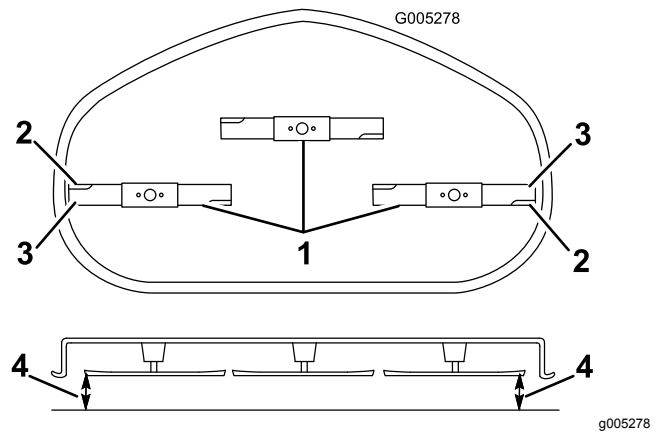

Figure 55
4. Carefully rotate the blade(s) so that they are all side to side (Figure 55).
5. Measure between the outside cutting edges and the flat surface (Figure 55).